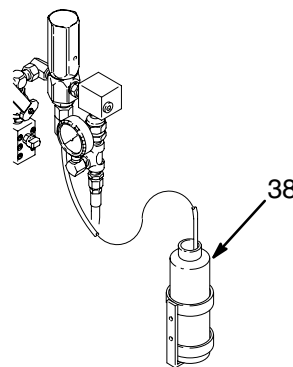

Fig. 14
Check the drain hose and bottle (38) at the start of each shift, and whenever there is an imbalance of material, to see if the automatic pressure drain valve has released material into the bottles. Clean the hose and bottle as needed. Regularly check the drain hose for cuts, leaks, or bulges and replace damaged components before using the system. See Fig. 14.